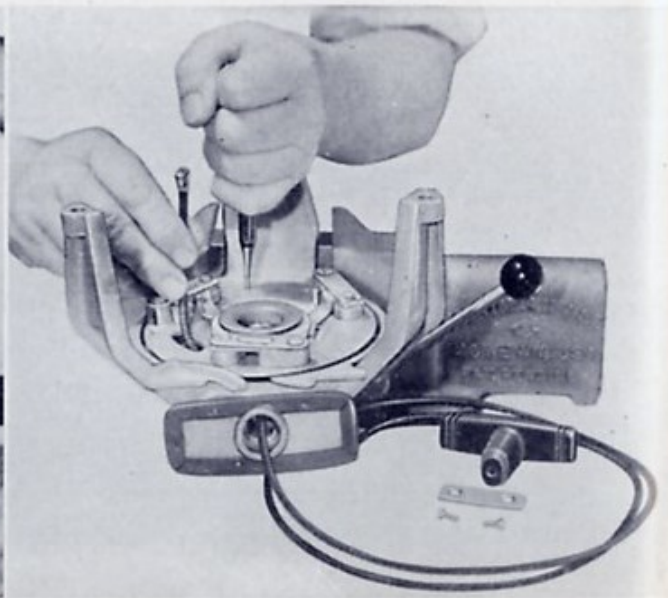

Figure 30
2. Place starter assembly in vise as illustrated (Fig. 30).